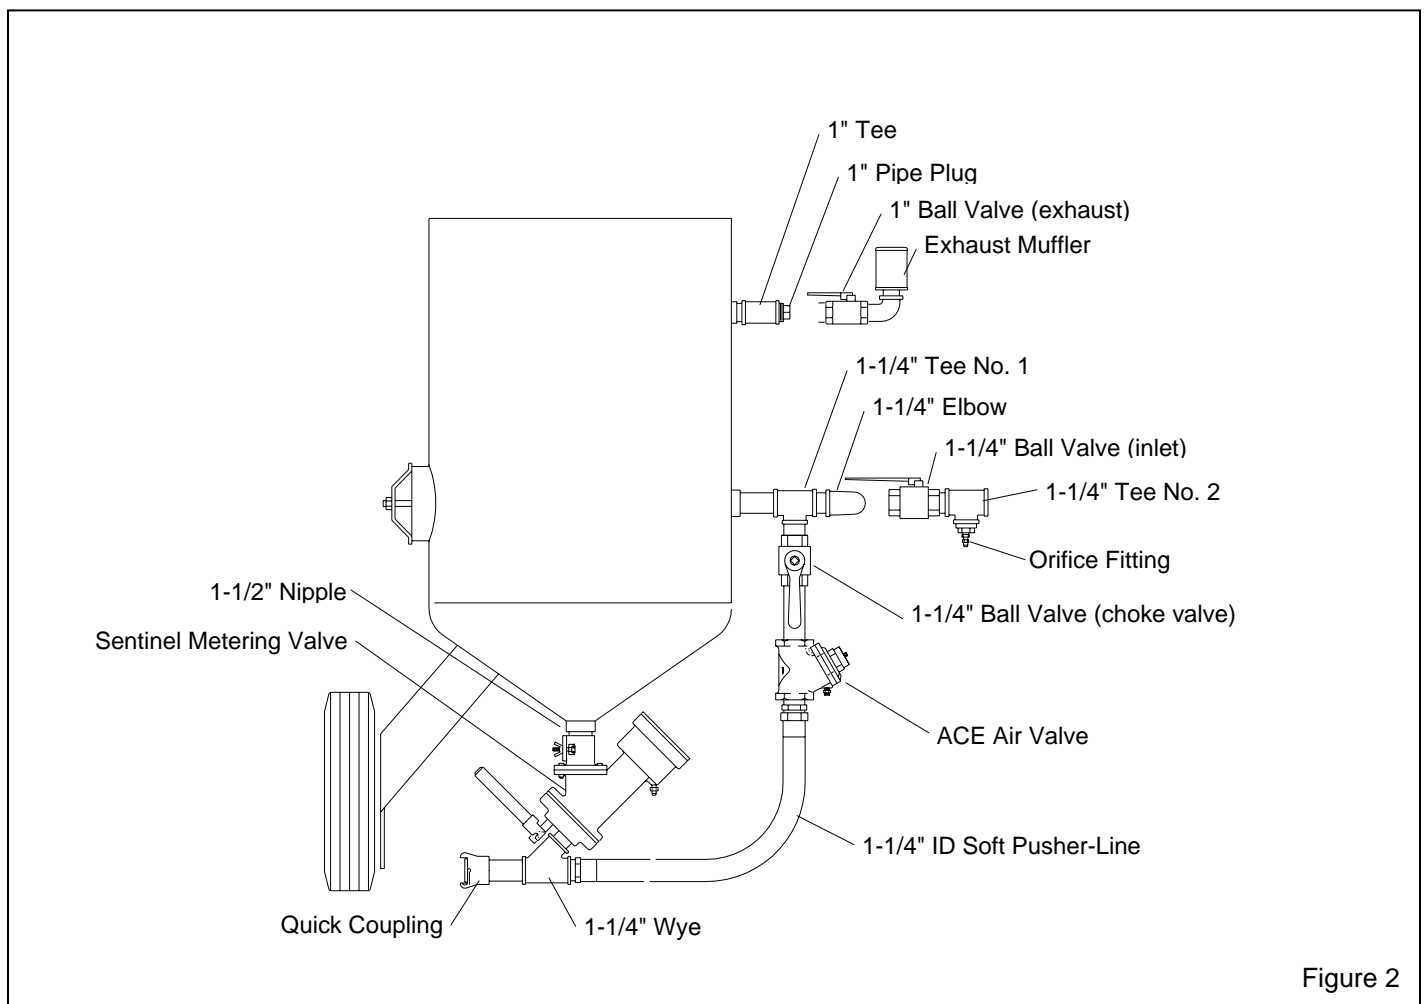

Figure 2
2.2 Field Installation: Refer to Figure 2.
2.2.6 Install a 1-1/4" pipe tee (Tee No.1) at the blast machine inlet as shown in Figure 2.